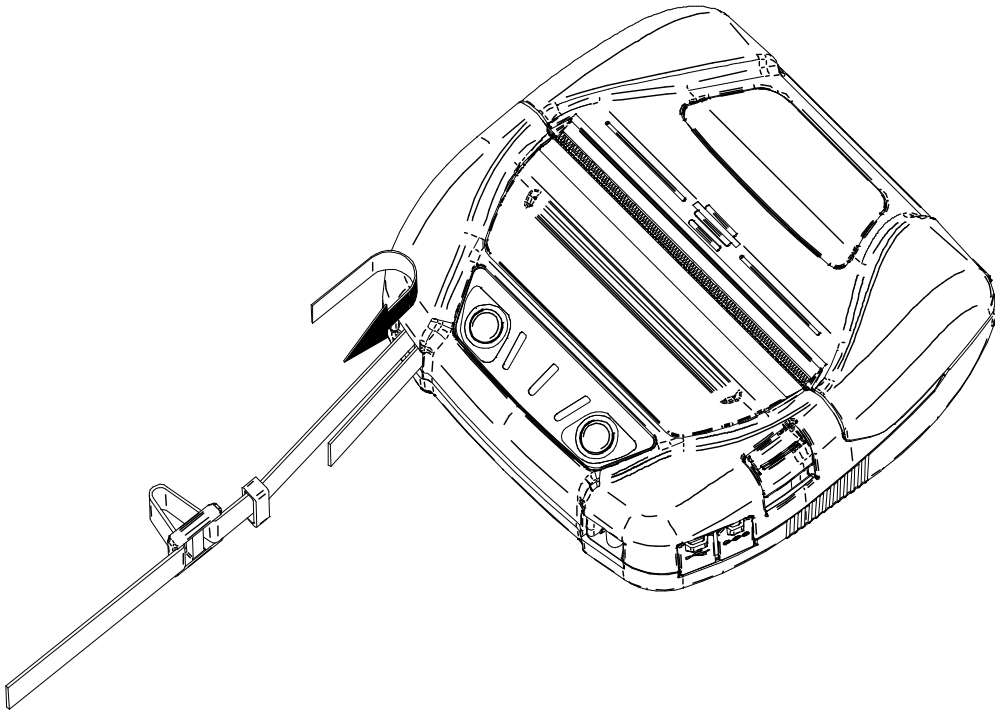

Figure 14-4 Shoulder Strap Installation (1)
- (1) Pass the tip of shoulder strap through the installation hole of the printer as shown in Figure 14-4. Loosen the shoulder strap at the adjuster part.